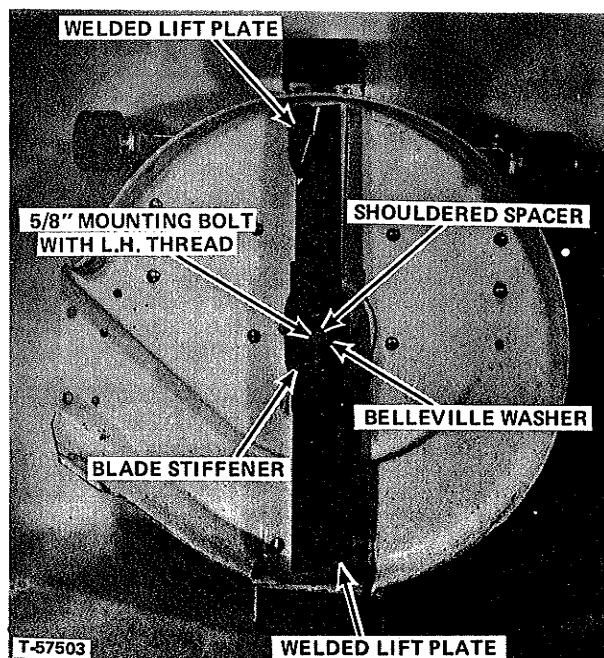

FIGURE 21
2. See Figure 21. Remove the original mower blade and replace with new blade having lift plates welded to blade ends. Place mower blade with welded lift plates facing upward to deflect grass clippings into grass bag. The blade stiffener is placed over center of mower blade as shown. To properly align new blade in blade stiffener, two capscrews may be temporarily inserted through guide holes in stiffener and blade. Add the belleville washer followed by shouldered spacer and 5/8-inch mounting bolt with left hand thread. The mounting bolt must be torqued to 80 foot-pounds. Slide mower back under tractor and reattach the mower and belt to tractor.